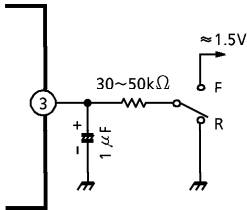

Fig.2
② The recommended forward / reverse select circuit is shown in Fig.2.